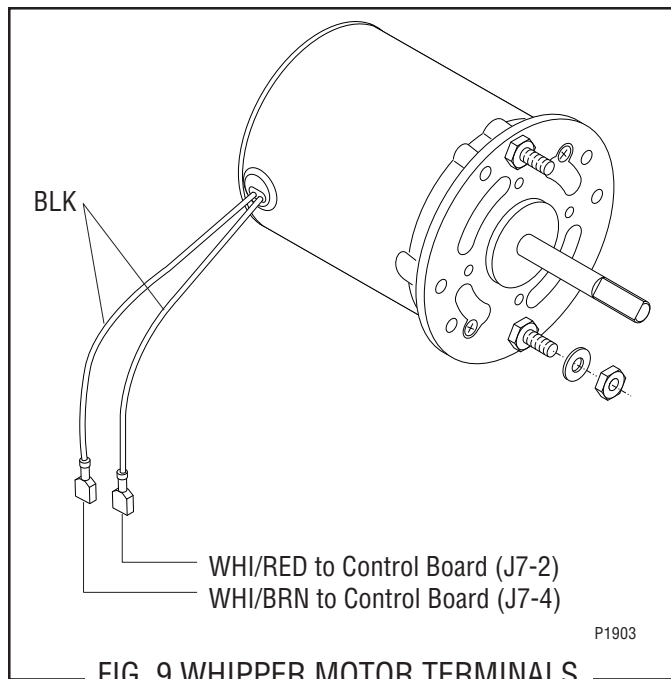

FIG. 9 WHIPPER MOTOR TERMINALS
12. Install new motor on rear of front panel and secure with two nuts. Connect the black leads from the motor to the main wiring harness. Refer to Fig. 9